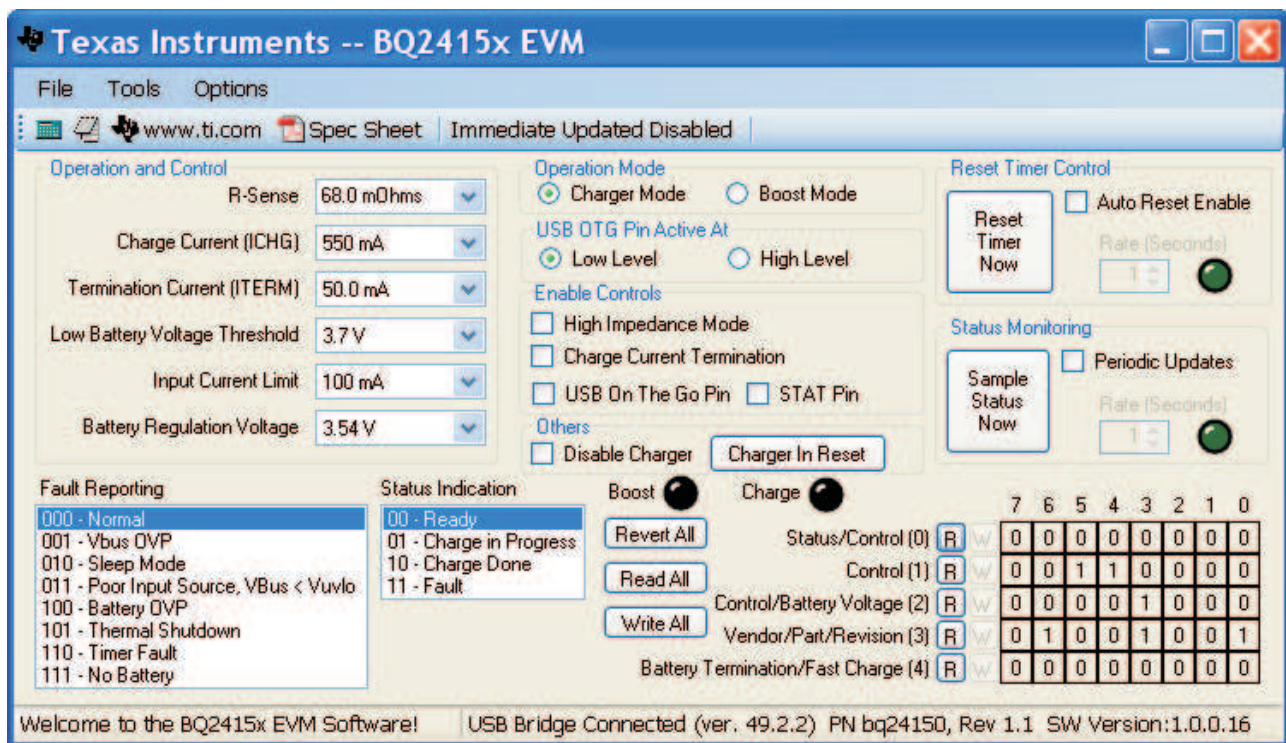

Figure 3. The Main Window of the bq2415x Evaluation Software (For bq24150/150A/151/151A/152)
- (I) Turn on the computer.
- Open the bq2415x evaluation software. The main window of the software is shown in Figure 3.